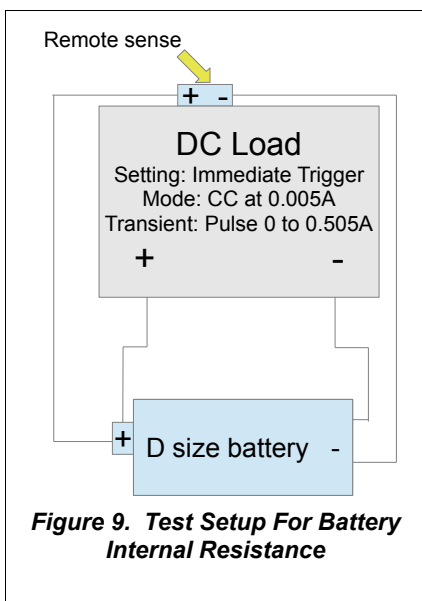

Figure 9. Test Setup For Battery Internal Resistance
Connect two wires as close to the battery terminals as possible and run these to the remote sense terminals on the DC load (be sure to observe the proper polarity). Turn on load with the configurations under "DC Load Setup" below. Make sure the battery voltage has stabilized and write this down as the starting voltage V_0 . Then trigger the transient current levels and immediately watch the displayed voltage. Within two seconds, make note of the lowest voltage displayed and label this as V . Use equation (4) to calculate the internal resistance. A setup diagram is provided in Figure 9 for the purpose of illustration.
Using the test setup in Figure 9, the stabilization voltage (V_0) for the measured battery is 1.496 V. With 0.505 A load, the voltage (V) is 1.415 V. Using equation (4) gives an internal resistance of 0.16 Ω .